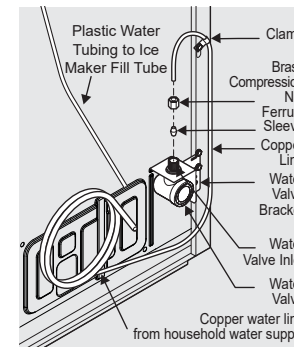

Figure 2
- 5 **If you use braided flexible stainless steel tubing**, the nut is already assembled on the tubing. Slide nut onto valve inlet and finger tighten nut onto valve. Tighten another 1/2 turn with a wrench; DO NOT overtighten. See Figure 2.